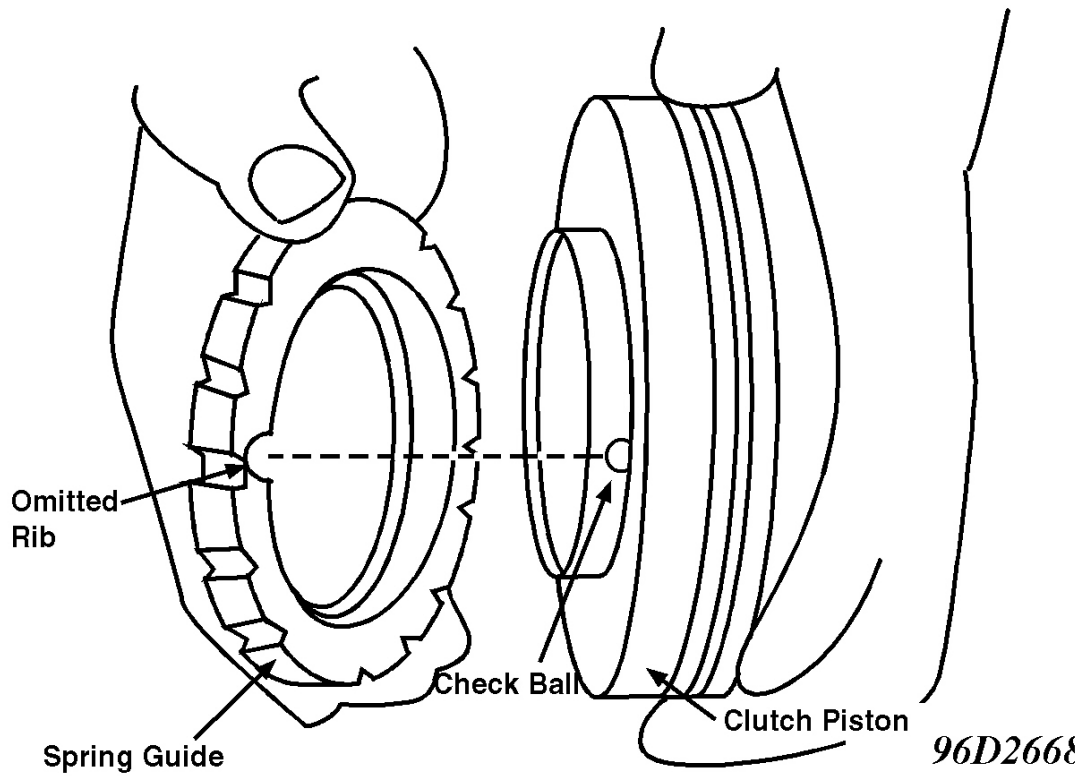

Fig. 23: Installing Direct Clutch Release Spring Guide
2. Install release spring guide with omitted rib over check ball in piston. See **Fig. 23** . Install retainer and spring assembly, compress springs and install snap ring.